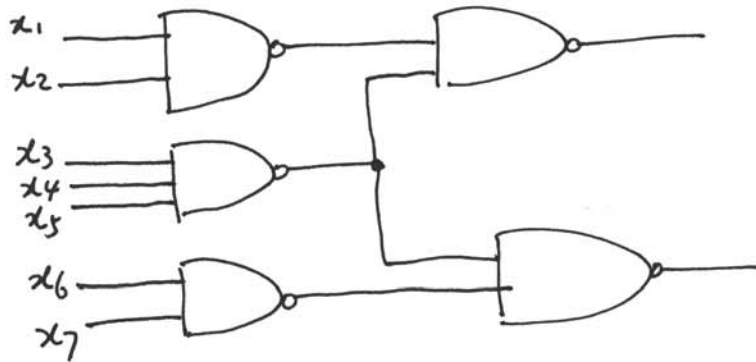

Figure 4.
5. Given a circuit shown in Fig. 4, find the minimum pseudo-exhaustive test patterns. (12%)